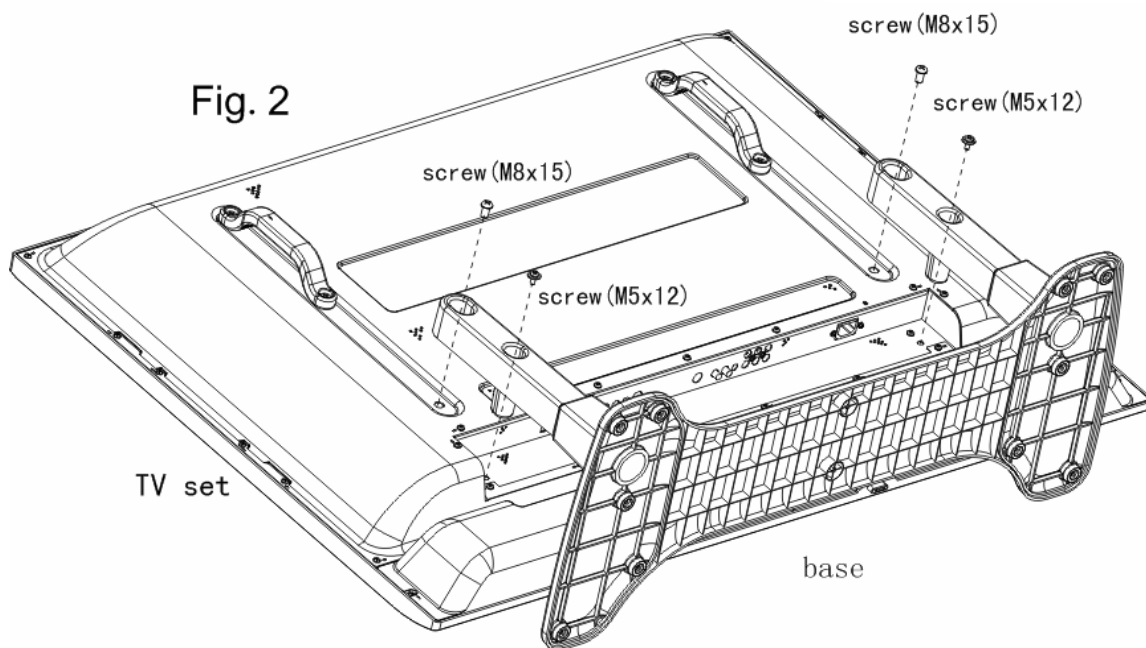

Fig. 2
3. Assemble the base subassembly onto the TV set with screw (M8X15) and screw (M5X12) as Fig.2.You can find these screws in the box of the base.